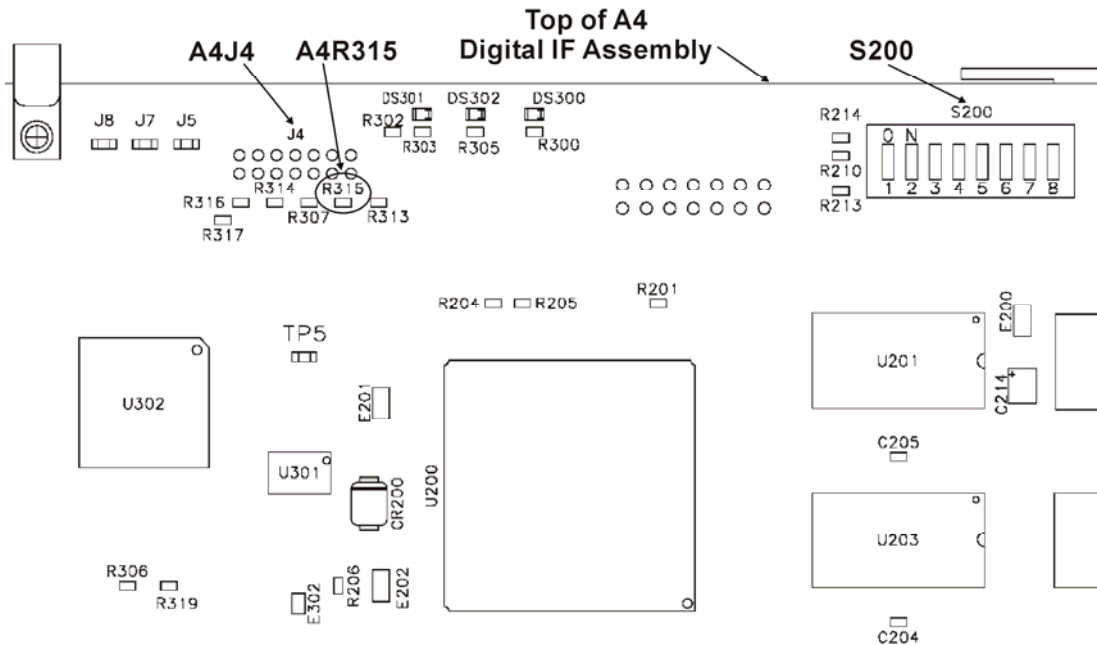

Figure 1. A4 Digital IF Assembly – Location of A4J4 JTAG connector and A4R315.
4. Refer to Figure 1 below to locate A4R315. Remove A4R315 and replace it with a 75 Ohm resistor, p/n 0699-3921.
5. Refer to Figure 1 below. If J4 is not loaded, install a 14-position, right-angle connector header, p/n 1253-6145, in the space provided for J4.